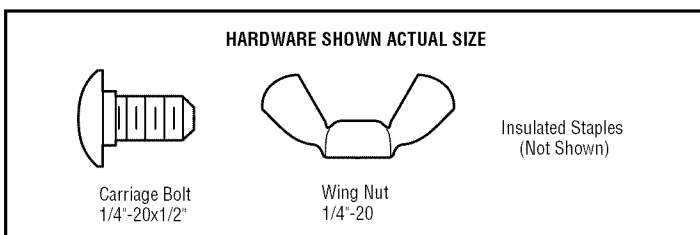

Figure 1 DOOR TRACK MOUNT (RIGHT SIDE)
1. Slip the curved arms over the rounded edge of each door track, with the curved arms facing the door. Snap into place against the side of the track. It should lie flush, with the lip hugging the back edge of the track (Figure 1).